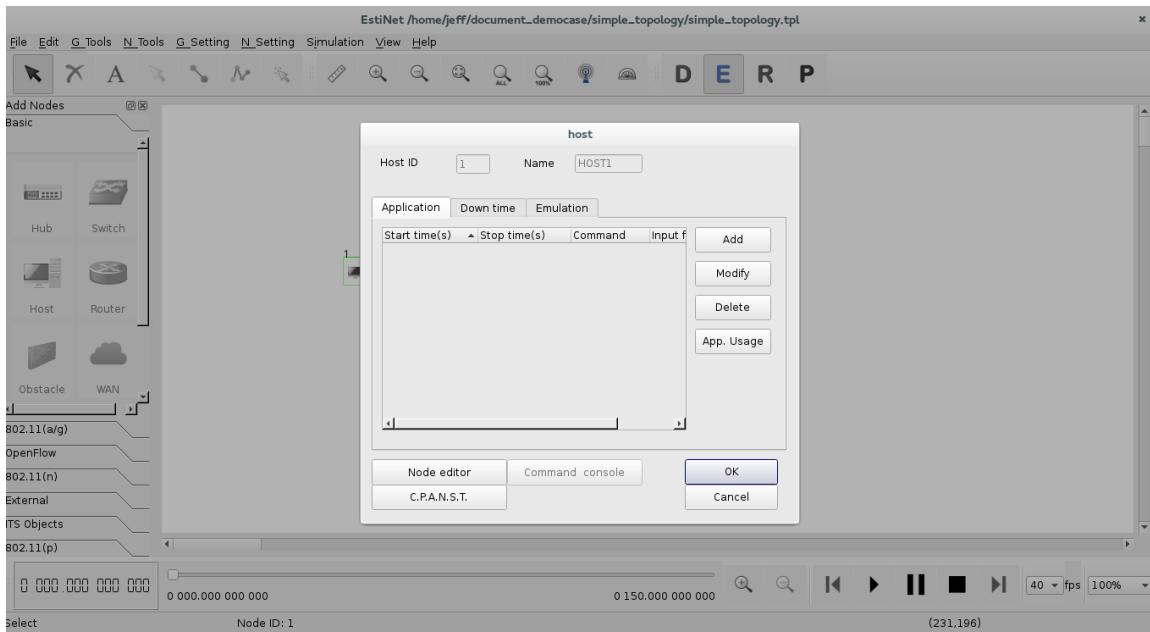

Figure 2.1.16 A dialog box of host node1
- (1) Double click the host node1 then a dialog box would be pop up as Figure 2.1.16.